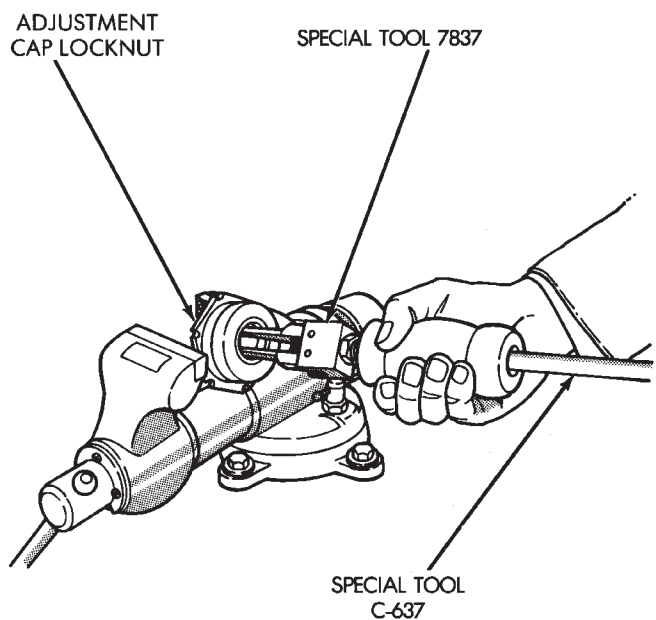
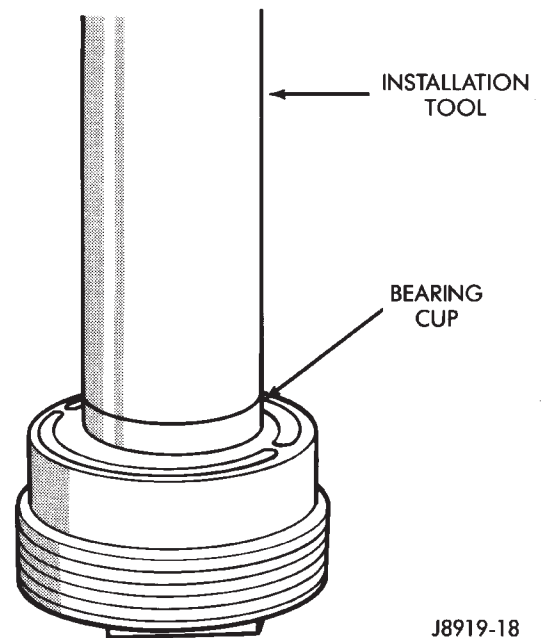

Fig. 7 Bearing Cup Removal
Fig. 8 Bearing Cup Installation
(1) Remove the lower bearing cup Remover 7837 and Slide Hammer C-637 (Fig. 7). Install a new bearing cup in the cap with a correct sized socket (Fig. 8).
(2) Lubricate the wormshaft lower bearing and place it in the bearing cup.
(3) Install the lower bearing retainer on the adjustment cap. If necessary, tap the retainer lightly with a plastic mallet to seat it.